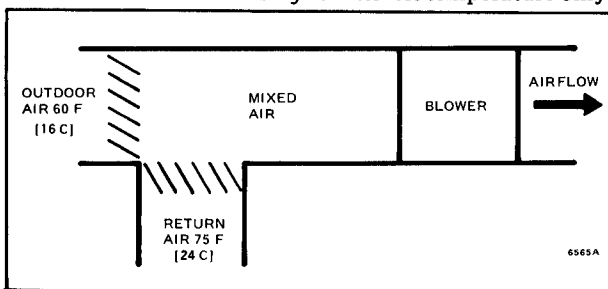

FIG. 19—ADJUST MINIMUM POSITION OF THE OUTDOOR AIR DAMPER.
3. The minimum position of the outdoor air dampers shall be adjusted to allow the minimum amount of fresh air required by local codes to enter the building. (Use the procedure outlined below to make the adjustment.) Refer to Fig. 19.